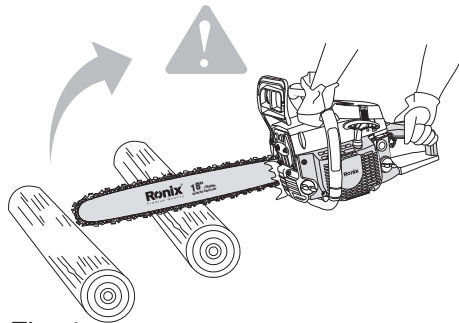

Fig. 1
Rotational Kickback can happen when the upper tip of the guide bar contacts an object while the chain is moving (Fig. 1&2). This can cause the chain to dig into the object and momentarily stop moving. The guide bar is then kicked up and back toward the operator in a lightning-fast reverse reaction.
- DO NOT make cuts with the tip of the guide bar (Fig.1).